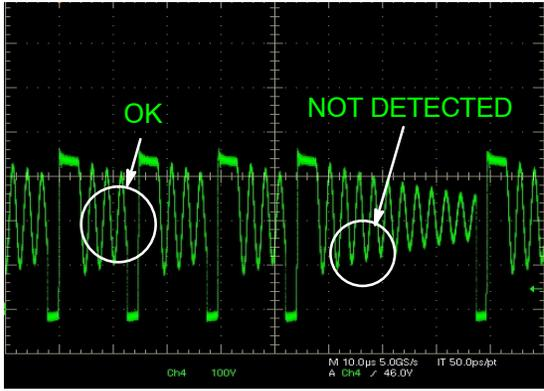
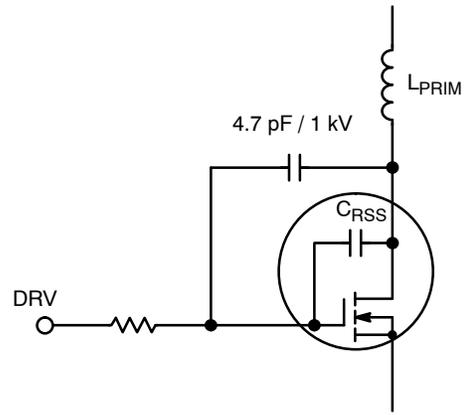

Figure 11. Instability at Lower Load
Figure 12. External Gate-to-Drain Capacitor
- The detector is not sensitive enough (C_{RSS} is too small): the first valley(s) is (are) detected, but not the following ones, leading to an instability at light load (see Figure 11). In this case it is necessary to increase the gate to drain capacitance by adding an external capacitor (see Figure 12). A 4.7 pF or 10 pF capacitor is enough to increase the sensitivity of the detector and cancel the instability. This added capacitor must be a high voltage model as it must sustain the drain voltage.